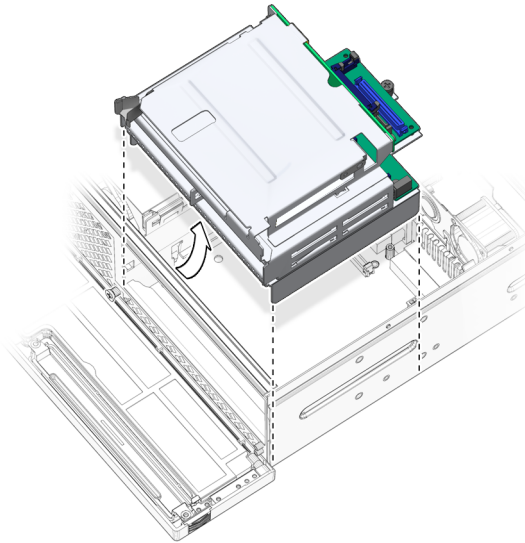

FIGURE 3-12 Lifting the Mass Storage Assembly Out of the Chassis
6. Slide the mass storage assembly back, pivot the back end up, and lift the assembly out of the chassis (FIGURE 3-12).